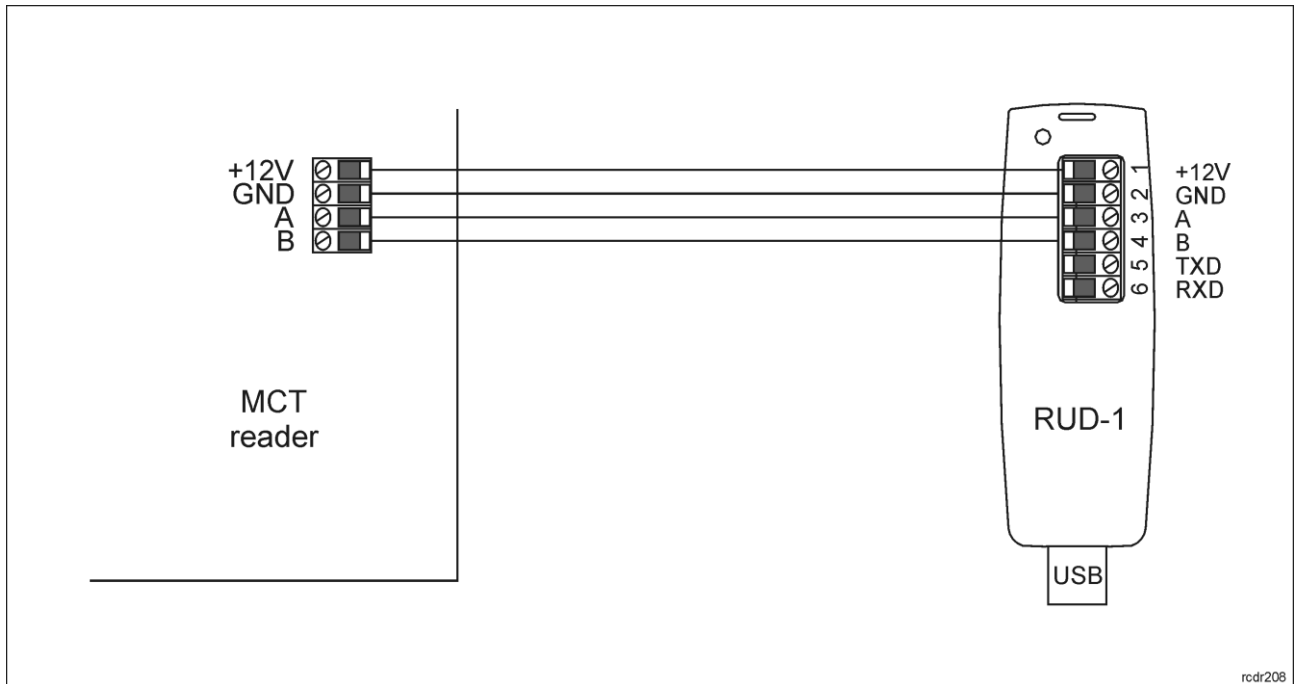

Fig. 9 Connection to RUD-1 interface (low level configuration)
1. Connect the device to RUD-1 interface (fig. 9) and connect the RUD-1 to computer's USB port.
The update requires connection of reader to computer with RUD-1 interface (fig. 9) and starting RogerISP software. The latest firmware file is available at www.roger.pl.
1. Connect the reader to RUD-1 interface (fig. 9) and connect the RUD-1 to computer's USB port.